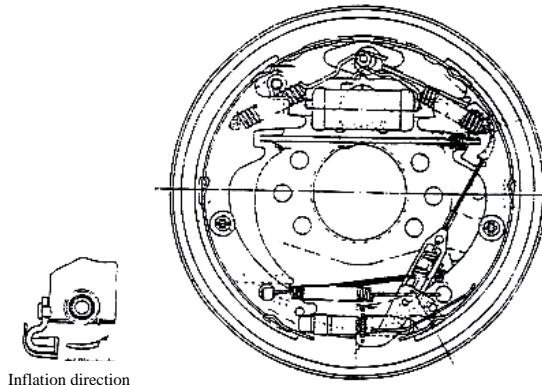

Figure 2-30
2.6.4 Operation test of the automatic clearance regulator as shown in Figure 2-30